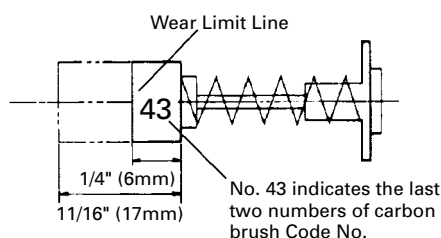
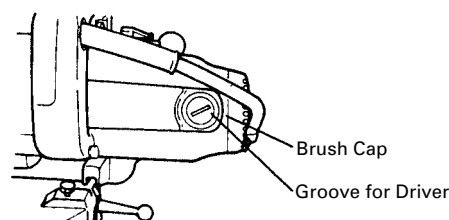

Fig. 39
Fig. 40
- (1) Loosen the 8mm nut and tighten the four 8mm hexagon socket set screws until the power tool operates smoothly without looseness.
- (2) Properly tighten the 8mm nut after completing these adjustment.
3. Inspecting the carbon brushes (Fig. 39 and Fig. 40)
Therefore, inspect the carbon brushes periodically and replace them when they have become worn to the wear limit line as shown in Fig. 39.
The carbon brushes can easily be removed after removal of the brush caps (see Fig. 40) with a slotted (minus) screwdriver.